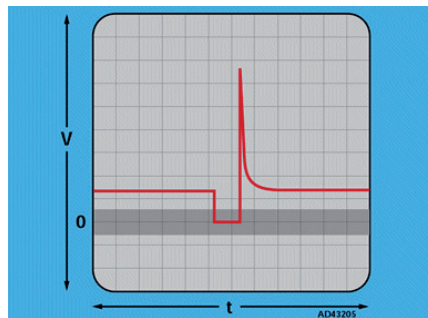

Fig 24 - Injector wave form
- A typical oscilloscope trace is shown in *Fig 24*.